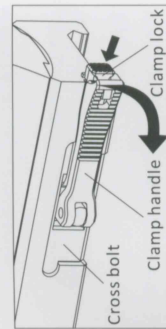

Fig3
2. Designed with our patented nonlinear cam clamping system, no tools are required for attaching to a rail. Push locking button, lift up handle to loosen the locking bar. To mount sight on rail, push the handle down, locking button will automatically engage. The installation is complete.(see fig 3)